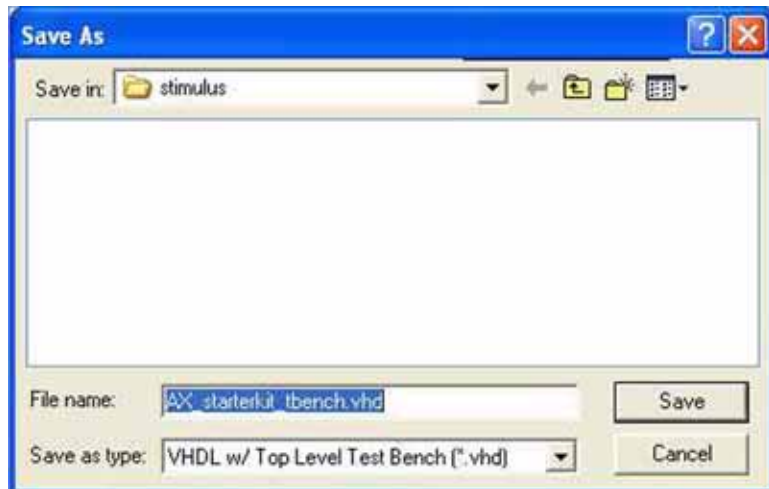

Figure 3-17. Save As Dialog Box
4. Select *VHDL w/Top Level Test Bench (*.vhd)* in *Save as type* and enter *AX_starterkit_tbench.vhd* for the file name, as shown in Figure 3-17.